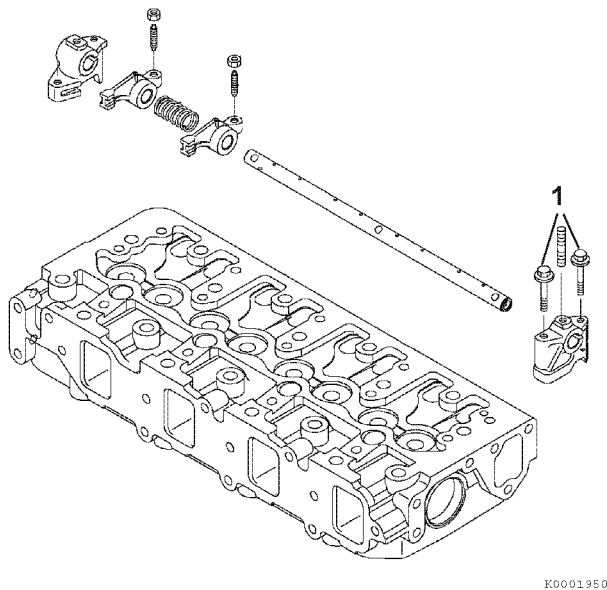

Figure 6-8
1. Remove the bolts (1, **Figure 6-8**) that retain the rocker arm shaft supports.